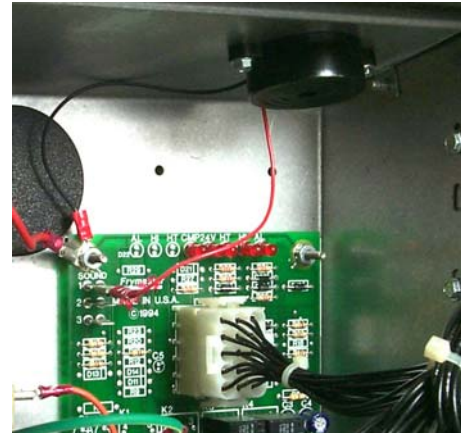

Figure 1 : Existing sound device is removed. Speaker is connected to the No. 1 sound terminal on the interface **board**.
3. Remove black ground wire from ring ground connection on interface board. See Figure. 1